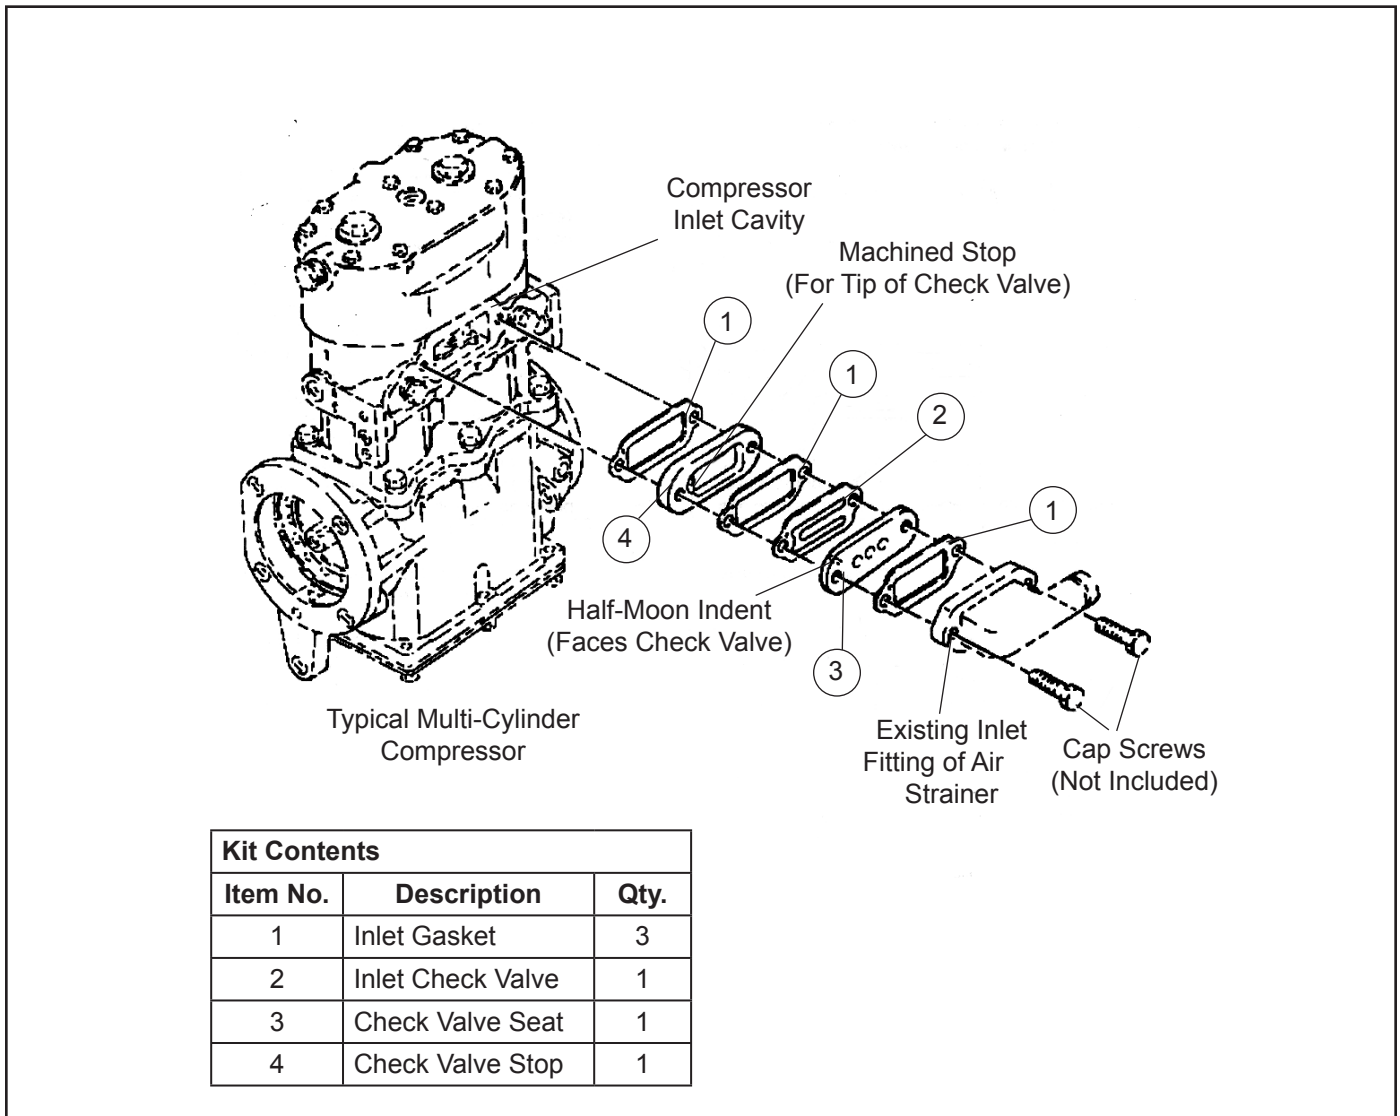

Figure 1 – Inlet Check Valve Kit Contents
4. Install the inlet check valve (ICV) components in the manner and sequence illustrated in Figure 1, making certain that:
- A. The locating pin holes in the check valve (2), gasket (1), and the check valve stop (4) are aligned and will mate with the corresponding pin installed in the check valve seat (3).
- B. One of the three gaskets (1) furnished is installed between the check valve stop (4) and the inlet check valve (2). **Note:** All three gaskets (1) furnished in this kit are identical and may be used in any position in the ICV assembly. However, DO NOT SUBSTITUTE OTHER INLET GASKETS in this position. The thickness of the gaskets (1) furnished in this kit contribute to the required valve travel.
- C. The free end or tip of the ICV (2) is positioned over the machined stop in the check valve stop (4).
- D. No gasket is used between the check valve (2) and the seat (3).
2. System air pressure should rise to governor cut-out and the compressor should unload in a normal fashion. Should the system fail to build, inspect the ICV installation paying particular attention to the position of the check valve (2), check valve stop (4), and check valve seat (3) relative to the compressor inlet cavity (*Refer to Figure 1*).